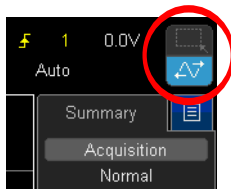

Figure 10 Blue touchscreen option icon
- 9 Rotate the Horizontal position knob to move the waveform left and right. Alternatively, tap the icon shown below in Figure 10, until the lower half is colored blue. You can now swipe your finger across the waveform to move it left and right.